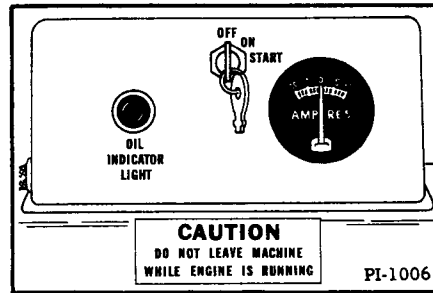

Fig. 6 Left Instrument Panel
7. Turn the ignition switch (key) to start position and proceed to crank the engine (Figure 6).
8. If the oil indicator light (Figure 6) comes on, and stays on, stop the engine and troubleshoot.
1. Observe items 1 through 6 of starting procedure for average conditions.
7. If the oil indicator light (Figure 6) comes on, stop the engine immediately and troubleshoot.